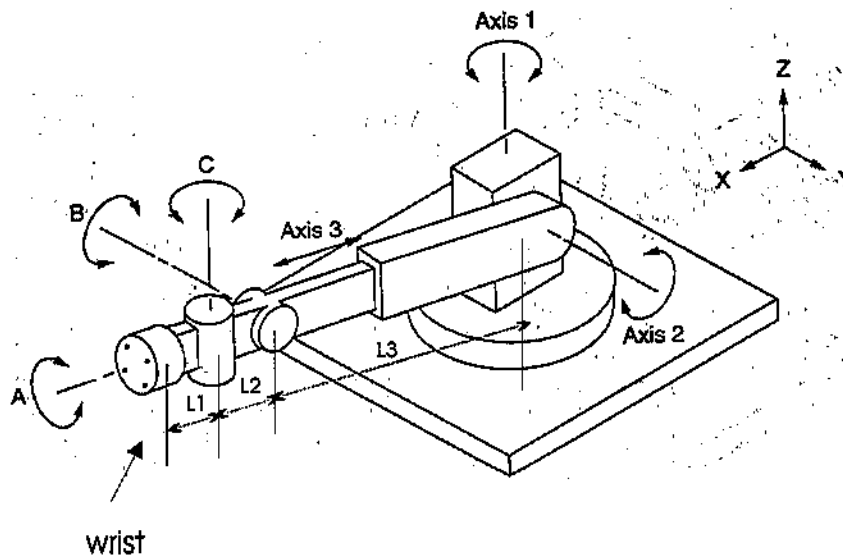

Figure 1. Spherical Robot.
1. Figure 1 shows a 6DOF spherical robot. Assume Axes 1, 2 and 3 intersect at one point. Affix frames to the links and find the DH parameters (10 points).